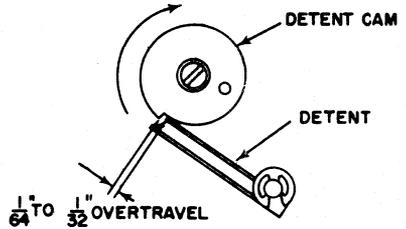

Figure 26
- Loosen the set screws on the knock off cam and locate it so the clutch can overtravel from $\frac{1}{64}$ " to $\frac{1}{32}$ " before the cam contacts the clutch sleeve (Figure 26).